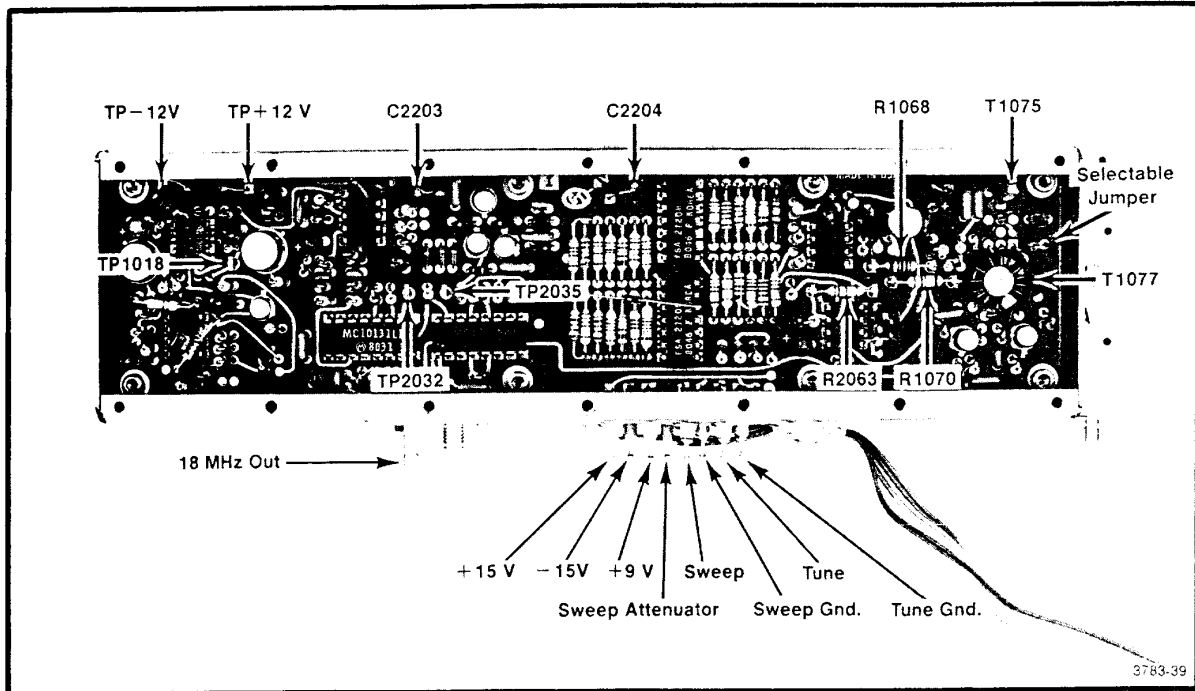
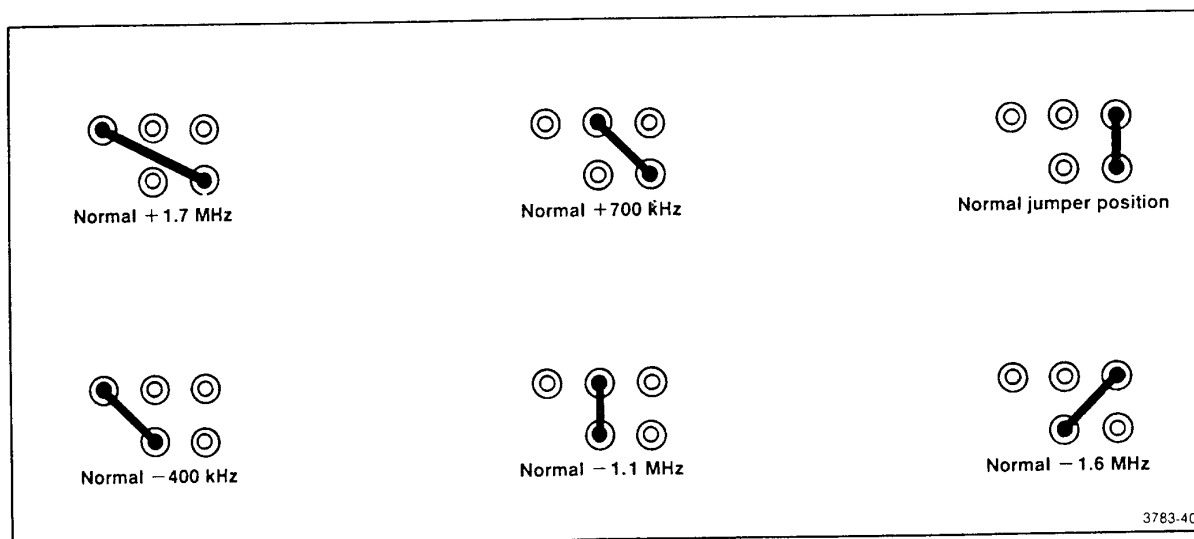

Fig. 4-22. Location of test points and components associated with calibrating the 14-22 MHz Phaselock circuit.
Fig. 4-23. Jumper positions between T1077 and T1075 versus frequency compensation for the 14-22 MHz Oscillator.
b. Remove the 14 screws that hold the cover on the metal section and remove the cover. Unsolder the leads to feedthrough capacitors C2203 and C2204. (These are the center two feedthroughs that feed through the circuit board, as shown in Fig. 4-22.)
a. Check all input voltages at the feedthrough capacitors in the housing wall. Refer to Fig. 4-22 or the voltages printed on the lid. Voltage at the sweep and tune input lines should equal  $0\text{ V} \pm 0.05\text{ V}$  with the FREQ SPAN/DIV  $\geq 100\text{ kHz}$ .
a. Replace select resistors, R2063 (Gain) with a 10 k $\Omega$  potentiometer, R1070 (2nd Order Shape) with a 5 k $\Omega$  potentiometer, and R1068 (3rd Order Shaper) with 2 k $\Omega$  potentiometer (see Fig. 4-22). Center all potentiometers. Install a wire jumper between T1077 and T1075 in the normal position as illustrated in Fig. 4-23. Increase the sweep sensitivity by connecting a 750  $\Omega$  resistor from the 2nd LO Sweep input (at C222) to the standoff at the junction of R2063 and pin 2 of U2063.
b. Select the jumper tap combination as shown in Fig. 4-23, so the center frequency is within 500 kHz of 18 MHz.